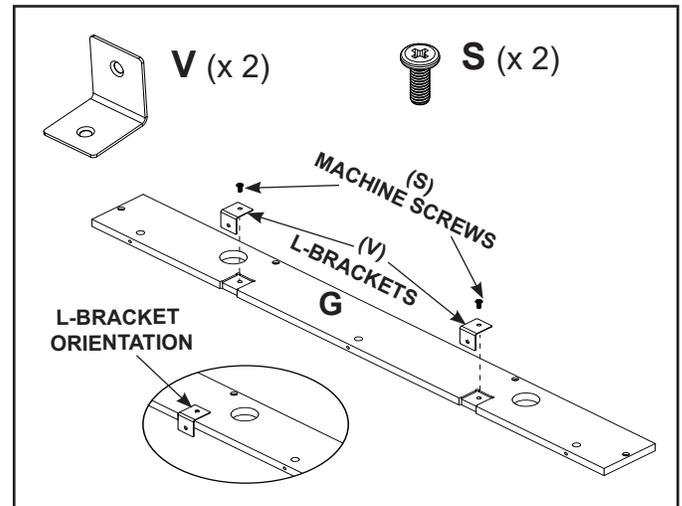

Figure 13
- Install two (2) L-Brackets (V) using two (2) M6 X 10 screws (S) on part “G”. See Figure 13.